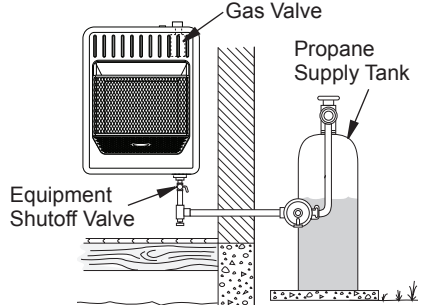

Figure 16 - Checking Gas Joints for Propane Gas
3. Check all joints from gas meter to equipment shutoff valve for natural gas or propane supply to equipment shutoff valve for propane (see Figure 16 or 17). Apply a noncorrosive leak detection fluid to all joints. Bubbles forming show a leak.
4. Check all joints from equipment shutoff valve to control valve (see Figure 16 or 17). Apply a noncorrosive leak detection fluid to all joints. Bubbles forming show a leak.